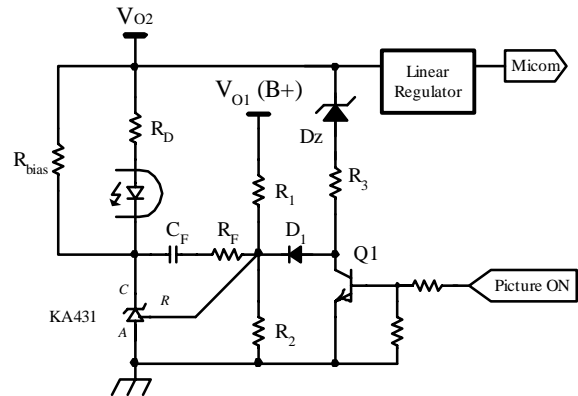

Figure 15. Typical feedback circuit to drop output voltage in standby mode
6. Burst operation : In order to minimize the power consumption in the standby mode, FSCQ0765RT employs burst operation. Once FSCQ0765RT enters into burt mode, FSCQ0765RT allows all output voltages and effective switching frequency to be reduced. Figure 15 shows the typical feedback circuit for C-TV applications. In normal operation, the picture on signal is applied and the transistor Q1 is turned on, which de-couples R3, Dz and D1 from the feedback network. Therefore, only Vo1 is regulated by R1 and R2 as